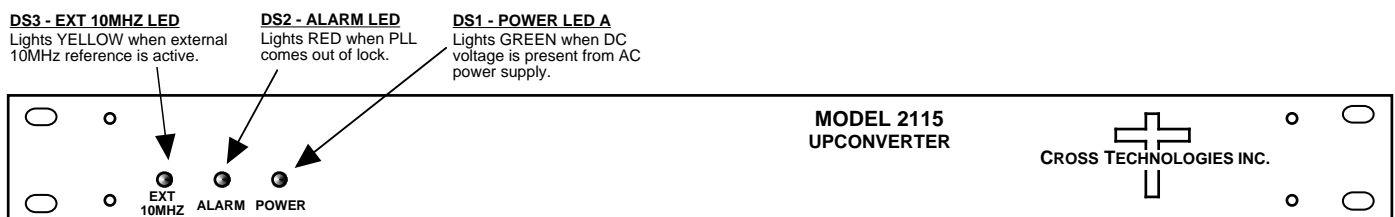

**FIGURE 2.1 2115-212-1600 Rear Panel I/O's**
## 2.2 Rear Panel Input/Output Signals - Figure 2.1 shows the input and output connectors on the rear panel.
1. Connect a -30 dBm to -10 dBm signal to L-BAND INPUT, J1 (Figure 2.1).
5. Select either INT (for internal 10MHz ref), AUTO (for internal 10MHz ref UNLESS a external 10MHz, 3 dBm signal is connected to J2), or EXT (for external 10MHz, 3 dBm ref that is inserted at J2) on rear panel switch S1 (Figure 2.1).
7. Check that a 10MHz, 3 dBm  $\pm$ 3 dB signal is present at the 10MHZ REF OUTPUT (J8) (Figure 2.1).